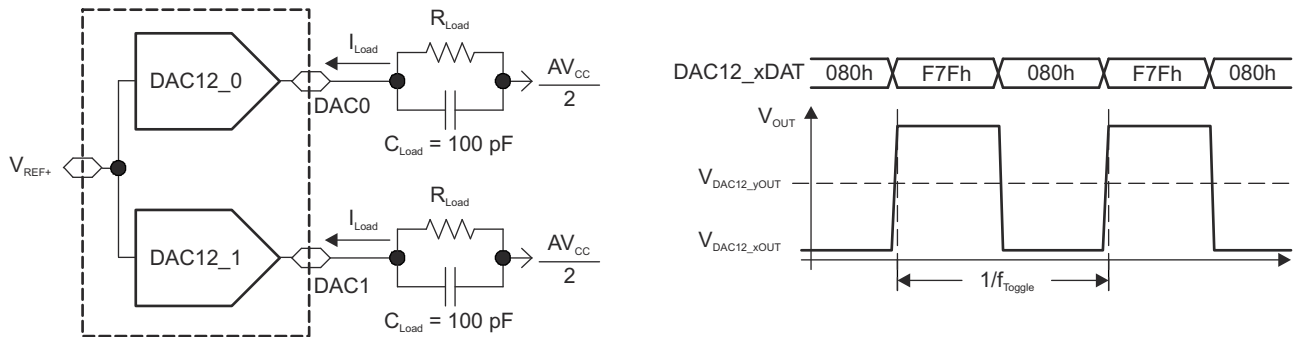

图 8-22. Crosstalk Test Conditions
| Channel-to-channel crosstalk (1) (see 图 8-22)   | DAC12_0DAT = 800h, No load,DAC12_1DAT = 80h $\leftrightarrow$ F7Fh, $R_{Load} = 3\text{ k}\Omega$ ,$f_{DAC12\_1OUT} = 10\text{ kHz}$ at 50/50 duty cycle | 2.2 V, 3 V |     | - 80 |     | dB   |